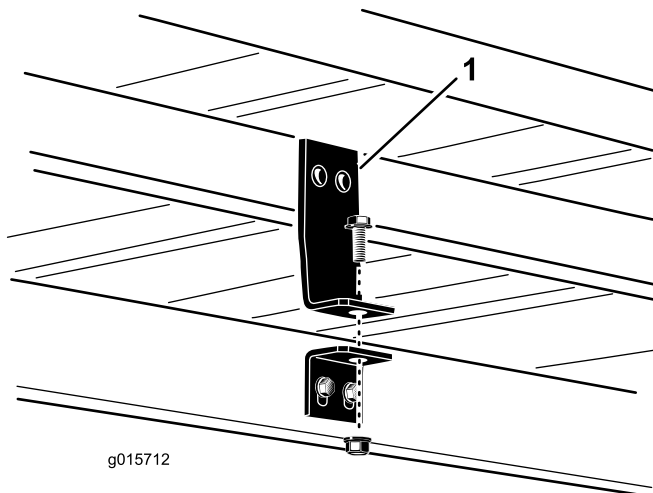

Figure 25
1. On each side of the machine, remove the flange head bolt and flange nut securing the bed mounting bracket to the frame bracket (Figure 25).
2. On each side of the machine, secure the bed mounting bracket to the frame bracket with the flange head bolt and flange nut previously removed (Figure 25)